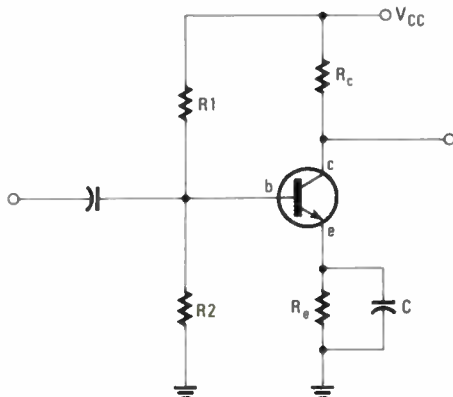

Fig. 6—By-pass capacitor C eliminates AC feedback.
21. (4.272) The AC feedback can be eliminated by connecting a capacitor across R_c , as shown in Fig. 6. The value of C is
22. (decreases) Decreasing the AC feedback causes most of the input voltage to reach the E-B junction, therefore, the circuit gain is greater. With a large value of C across R_c , the gain approaches the value of the transistor's β (h_{FE}). Gains of over 50 are obtainable with a single transistor stage like the one shown in Fig. 6.